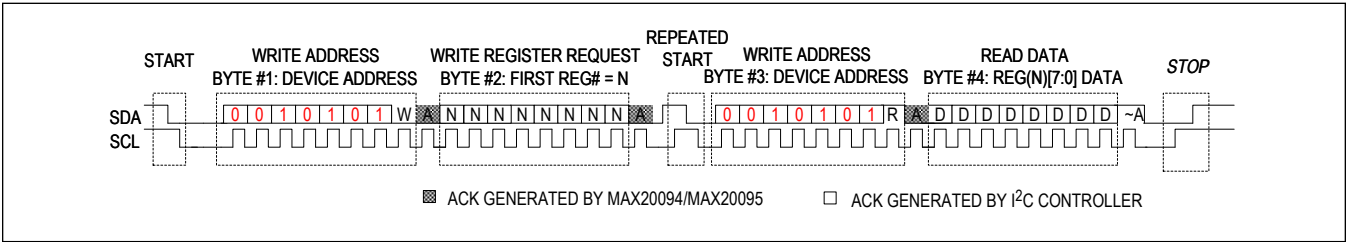

Figure 7. I2C Read Sequence
The ICs support standard combined-format I2C read-mode operations. Each receive sequence is again framed by a START (S) or Repeated START (Sr) condition and a STOP (P). Each byte is 8 bits long and is always followed by an ACK clock pulse, as shown in Figure 7. The first byte contains the address of the device, with R/W = 0 to indicate a write. The second byte contains the register that is to be read back. There is now a Repeated START (Sr) condition, followed by the device address, with R/W = 1 to indicate a read and an acknowledge (ACK) clock. The controller still has control of the SCL line, but the device takes over the SDA line. The fourth byte in the frame contains the register data readback followed by a STOP (P) condition.